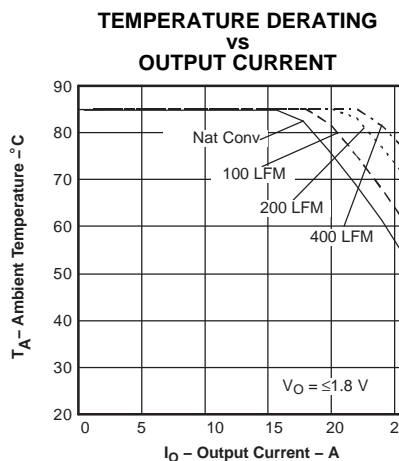

Figure 9.
- (2) SOA curves represent the conditions at which internal components are at or below the manufacturer's maximum operating temperatures. Derating limits apply to modules soldered directly to a 4 in. x 4 in. double-sided PCB with 1 oz. copper. For surface mount products (AS and AZ suffix), multiple vias (plated through holes) are required to add thermal paths around the power pins. Please refer to the mechanical specification for more information. Applies to Figure 9.